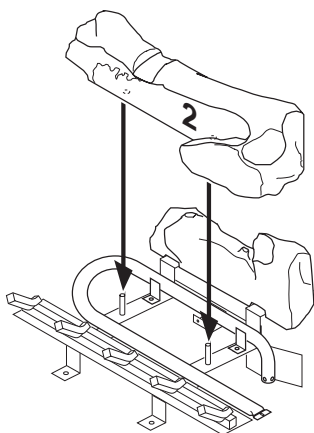

Figure 27 - Installing Log No. 2
3. Rest log #2 (large front log) on the pins on the front part of grate (see Figure 27).